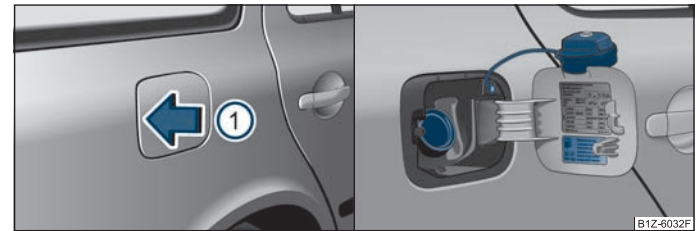

Fig. 119 Right rear side of the vehicle: Open fuel filler flap/fuel filler flap with cap unscrewed
Your vehicle can only be operated with **unleaded petrol**, which complies with the standard **EN 228**. The individual grades of petrol are distinguished by their octane number (RON). On the inside of the fuel filler flap, you will find the information regarding the octane number required by your engine ⇒ page 137, fig. 119 - right.
- Press in the middle of the left area of the fuel filler flap in direction of arrow ① ⇒ fig. 119.
- Unscrew the fuel filler cap anti-clockwise and place the fuel filler cap from above on the fuel filler flap ⇒ page 137, fig. 119 - right.